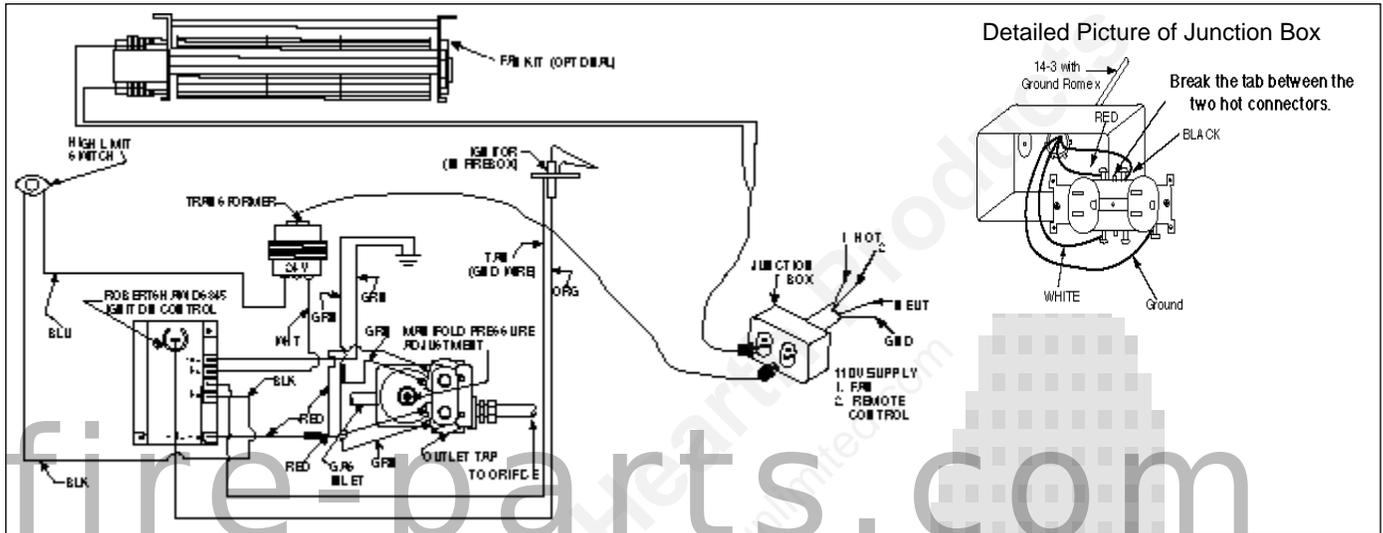

Figure 12
- 1. Appliance Requirements.** This appliance requires a 110VAC supply from a wall switch to the appliance junction box for operation. A wiring diagram is shown in *Figure 12*.